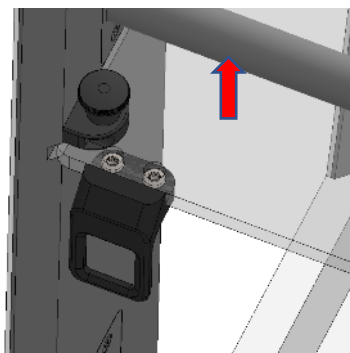

Figure 154: Disassembling the shelf (1/3)
- Lift the shelf stop upwards (See Figure 154)